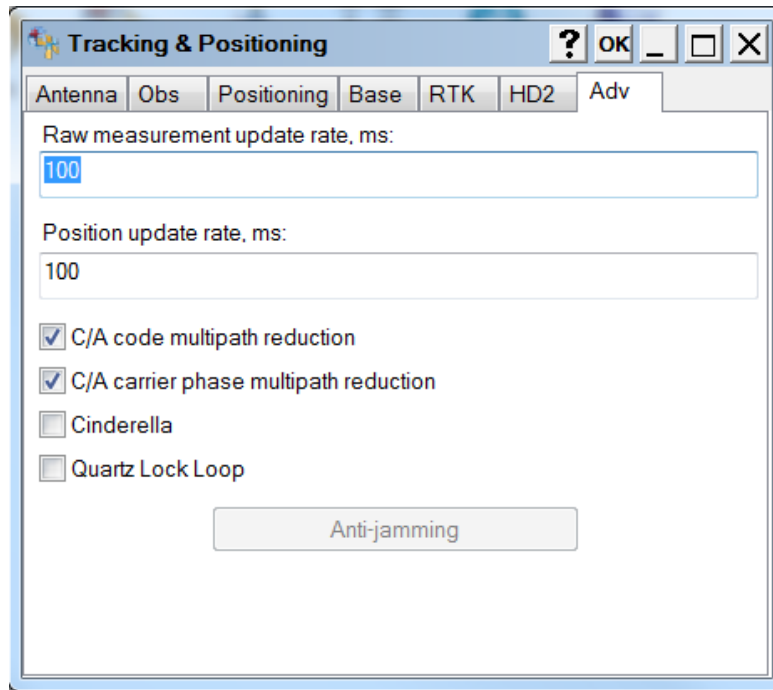

Figure 29: Configure Advanced Parameters
5. Click the Adv tab, and set the following parameters (Figure 29):